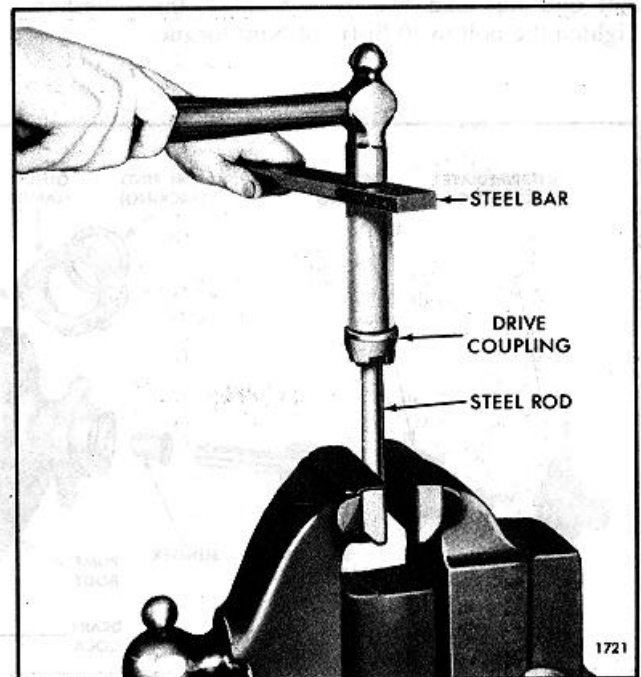

Fig. 5 - Removing Pump Drive Coupling from Shaft with Tool J 1930
4. If necessary, remove the pump drive coupling from the shaft with tool J 1930 as shown in Fig. 5.